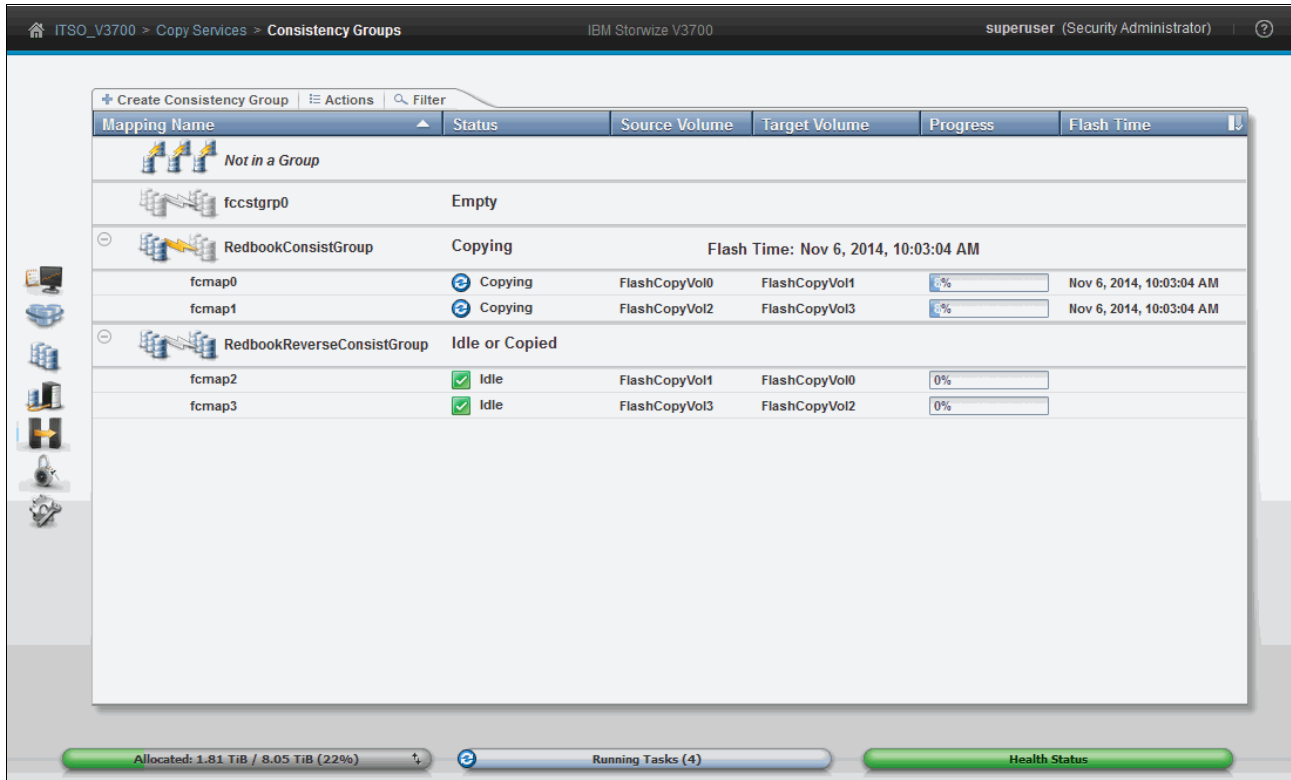

Figure 10-67 Reverse Consistency group populated
- From the drop-down menu, select the new “reverse” consistency group that you created in step 3 on page 513. In our example, this group is RedBookReverseConsistencyGroup. The result should be similar to that shown in Figure 10-67.